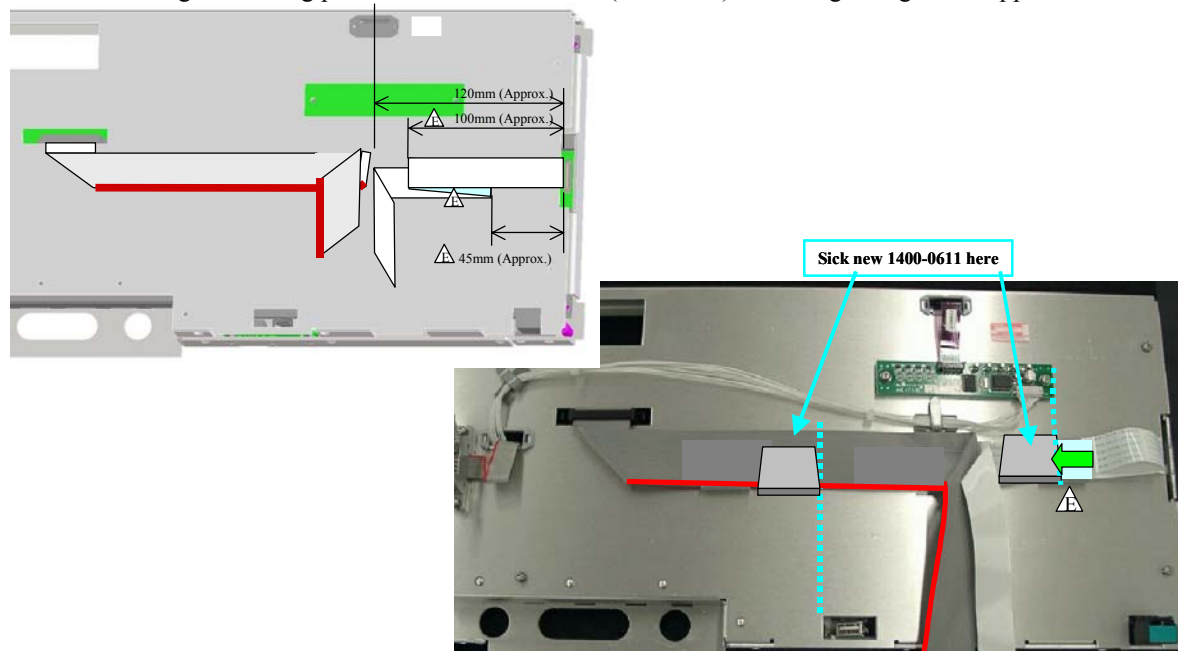

Figure 11 New cable clamp position and cable bending reference
17. To avoid the friction between new semi-rigid cables and front panel's cable clamp, remove two 1400-0611, cable clamp, from original place, then stick two new 1400-0611, cable clamp, as shown in Figure 11 lower. Then change a bending position of LCD flat cable (white one) according to Figure 11 upper.
23. To avoid the friction between new semi-rigid cables and front panel's cable clamp, remove two 1400-0611, cable clamp, from original place, then stick two new 1400-0611, cable clamp, as shown in Figure 11 lower. Then change a bending position of LCD flat cable (white one) according to Figure 11 upper